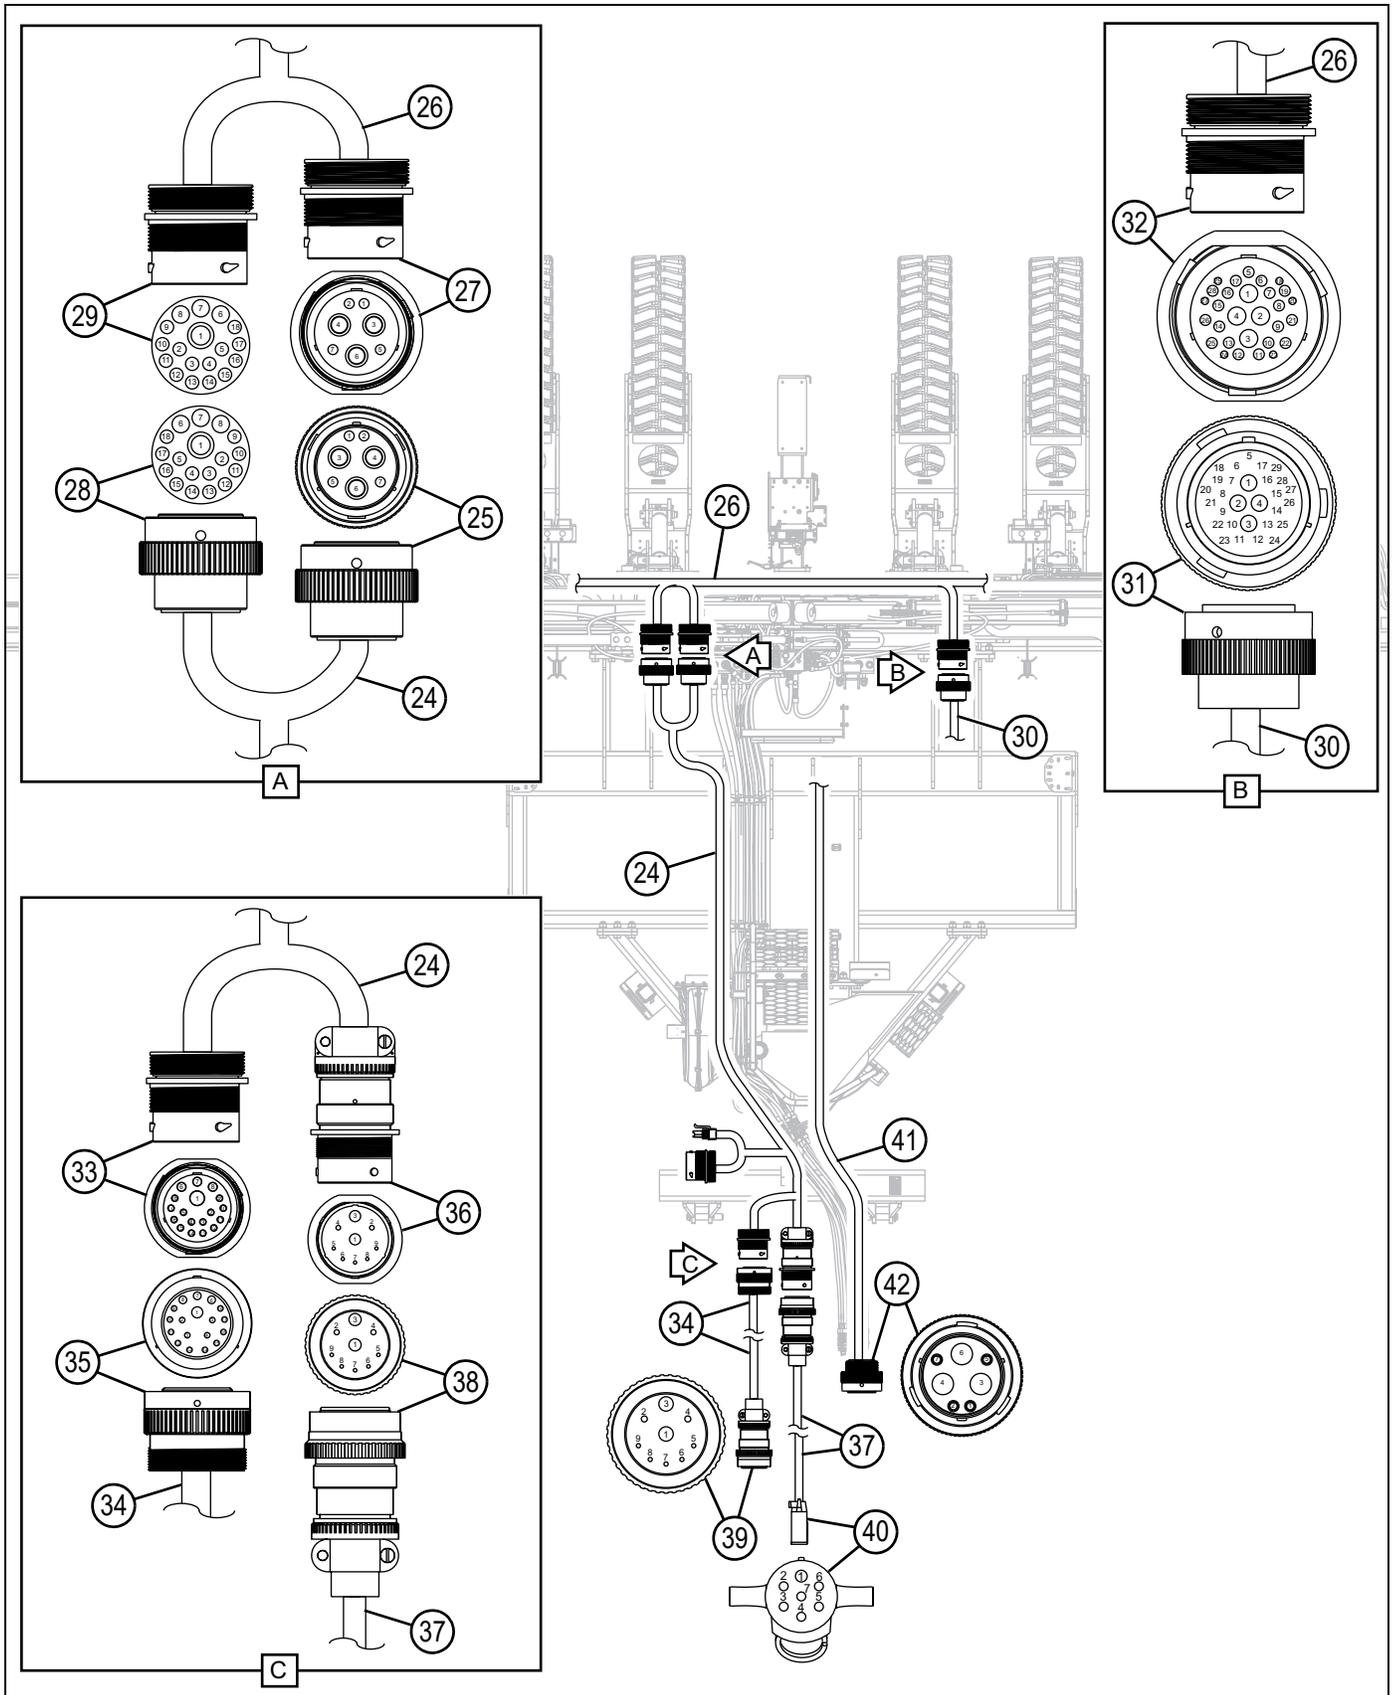

Figure 4-8
13. Connect all electrical harnesses from the tongue assembly to the harnesses on the toolbar. Tie up/route harnesses accordingly to avoid wear/pinch points and prevent harness damage during planter function. See Figure 4-8 on page 4-7.
- a. Connect tongue harness (24) 7-pin connector (marked Center Backbone) (25) to backbone center harness (26) 7-pin connector (marked Tongue Harness) (27).
- b. Connect tongue harness (24) 18-pin connector (marked Center Backbone) (28) to backbone center harness 18-pin connector (marked Tongue Harness) (29).
- c. Connect central commodity system (CCS) cradle harness (30) 29-pin connector (marked Cradle Harness) (31) to backbone center harness (26) 29-pin connector (marked CCS Cradle) (32).
- d. Connect tongue harness (24) 18-pin connector (marked CAN Tractor) (33) to CAN harness (34) 18-pin connector (marked CAN Draft Tube) (35).
- e. Connect tongue harness (24) 9-pin connector (marked Tractor Contact) (36) to light harness (37) 9-pin connector (marked Lights) (38).
14. Connect toolbar electrical connectors to tractor connection points. Tie up/route harnesses accordingly to avoid wear/pinch points and prevent harness damage during planter function. See Figure 4-8 on page 4-7.
- a. Connect CAN harness (34) 9-pin connector (marked CAN Tractor) (39) to tractor connection point.
- b. Connect light harness (37) 7-pin connector (marked Tractor) (40) to tractor connection point.
- c. Connect power-take-off (PTO) center harness (41) 7-pin connector (marked Alt Harness) (42) to tractor alternator.